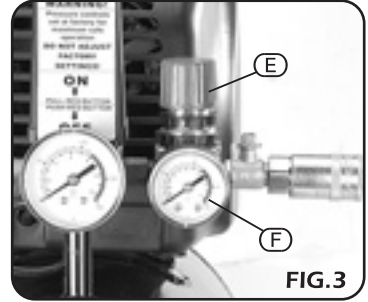

FIG.3
- **WORKING PRESSURE ADJUSTMENT (Fig.3.):**